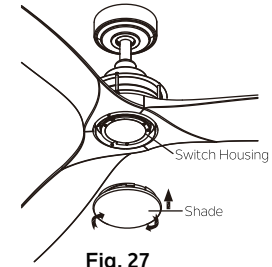

Fig. 27
**Step 8.** Secure the shade to switch housing by twisting in a clockwise direction. Do not over-tighten. (Fig. 27)